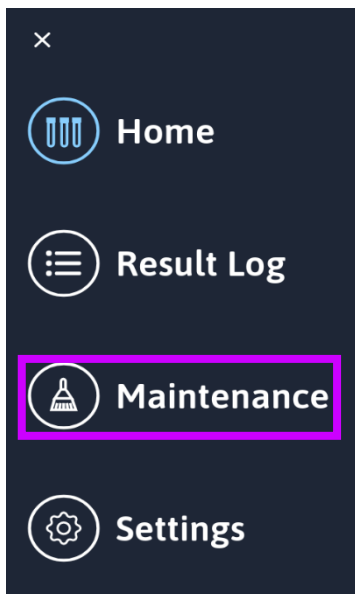

Figure 2
2. Press the Maintenance button highlighted in pink in Figure 2.